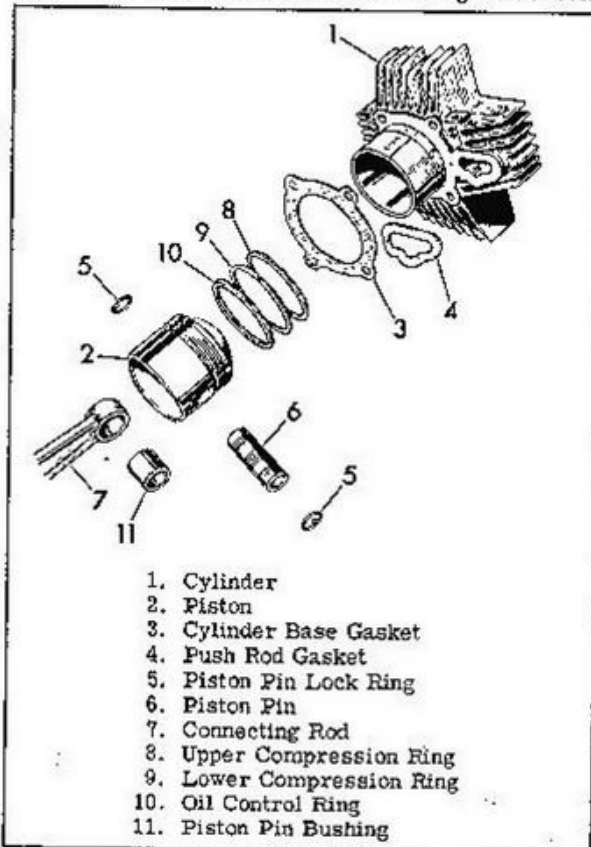

Figure 3C-59. Removing Cylinder and Piston
Clean crankcase around cylinder base to prevent dirt from falling into crankcase when lifting cylinder. Slip cylinder (1) and piston (2) far enough from crankcase to permit placing a clean cloth over crankcase opening; this will prevent dirt and possibly pieces of broken ring from falling into crankcase. Remove cylinder (1) by pulling off from the four mounting studs, also remove cylinder base gasket (3) and push rod gasket (4). Remove piston pin lock rings (5) from piston groove. On early models with bent ring ends, use lock ring pliers as shown in Figure 3C-60. On late models with straight ring ends, insert pointed tool in hole slot and pry out lock ring as shown in Figure 3C-60A. A tool for removing piston pin lock rings can be made from a screwdriver, such as Harley-Davidson Part No. 95002-45, with a blade measuring approximately 1/32 in. thick and 9/32 in. wide. Grind end as shown in inset of Figure 3C-60A.